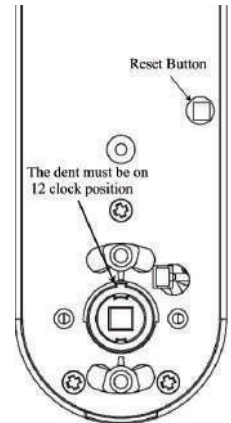

fig. 1
1.1 Mark centerline on door and jamb (see fig. 1).
- 1.1 The dent should be on 12-clock position (see fig. 1), if not, rotate Square Spindle to let the dent be on 12-clock position.
3.1 Make sure that the dent is on 12-clock position when lock hasn't be installed on the door (see fig. 1), if not, rotate Square Spindle.